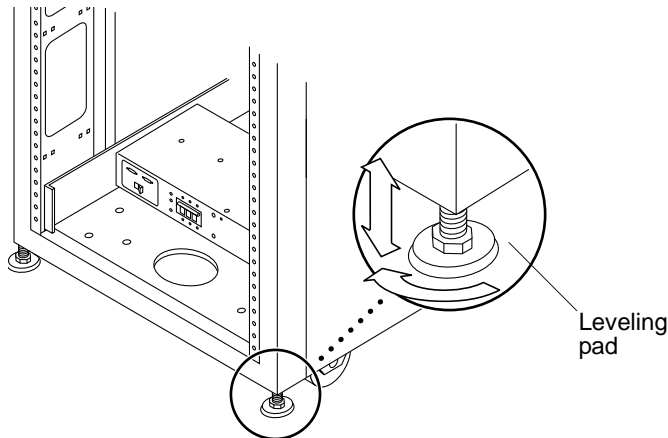

FIGURE 2-1 Leveling Pads
The leveling pads (screws) are located at each corner at the base of the cabinet (FIGURE 2-1).
3. **Adjust the four leveling pads on the cabinet frame using the leveling wrench** (FIGURE 2-1).